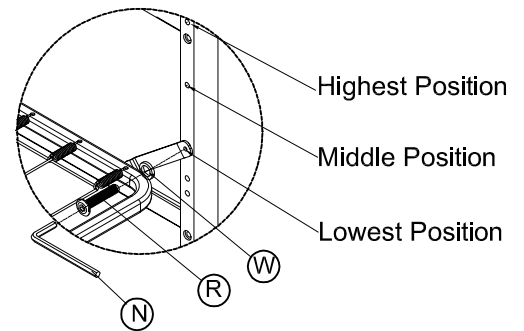

FIG.6.3
- Insert the 8 (eight) allenbolt 5/8"(15 mm)(R) into the exposed threaded holes on side frame as shown in FIG.6.3 & 6.4.
- Tighten all bolts with allenkey (N).